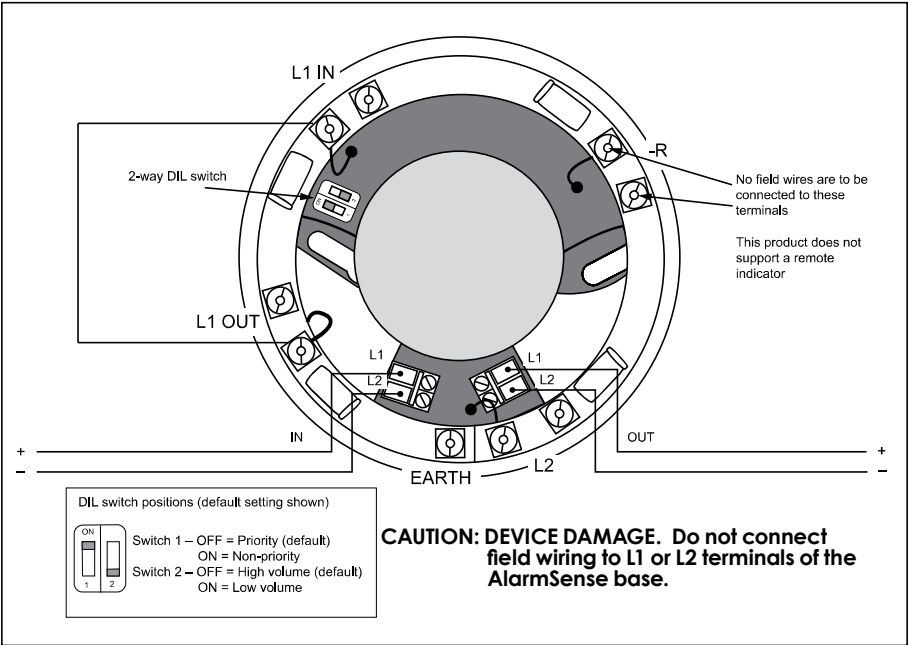

Fig. 2b Stand-alone Sounder/Sounder Visual Indicator Base
With reference to **Fig 2b**, for stand-alone sounders or sounder visual indicators, fitted with either a white cap, Part No. 45681-294 or red cap, Part No. 45681-295, carry out the following:
- 2. A wire link (not supplied) is required between L1 IN and L1 OUT on the outer ring terminals to disable the head removal signal, as shown in **Fig 2b**.